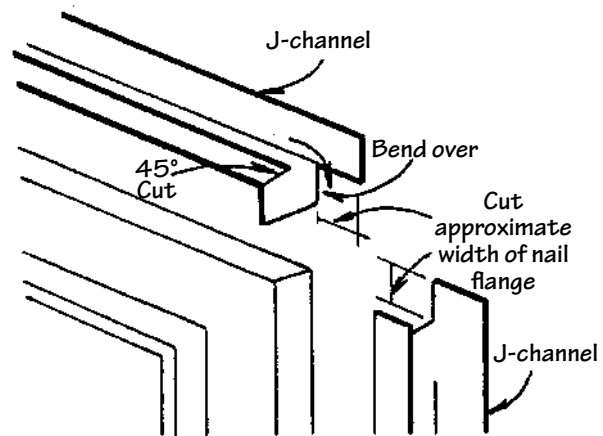

Figure 56.
- Cut the side J-channels the length of the frame plus the width of the top and bottom J-channel. Cut notches in the top of the side J-channel. Cut and bend tabs (Fig. 56) into the bottom channel. Install the side channels.
- Cut the top J-channel the width of the frame plus the width of the side J-channels. Notch the top J-channel on each end, bend the tabs into the side J-channel, and fasten the top J-channel (Fig. 56).